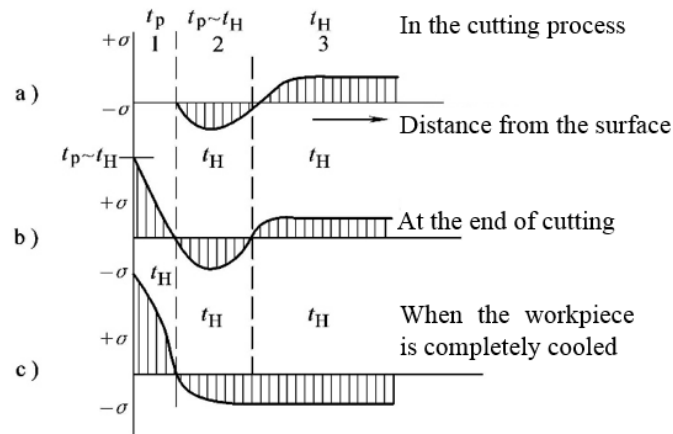

Figure 6
12. Analyze the influences of cutting heat on residual stress on the machined surface of the workpiece in the cutting process, at the end of cutting and when the workpiece is completely cooled in the machining process based on Figure 6. Here, t_H representing room temperature when the workpiece has high plasticity and t_p refers to the temperature; $+\sigma$ and $-\sigma$ represent tensile stress and compressive stress, respectively; 1, 2 and 3 represent three layers of metal at different distances from the workpiece surface, respectively. (6 points)